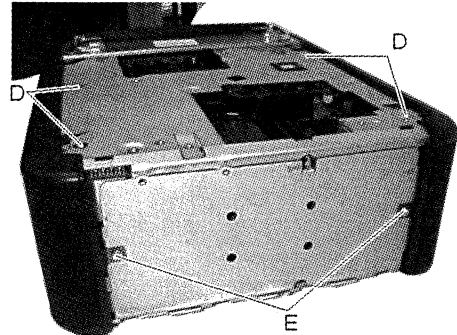

Fig. 4.4
4.3 Removing the side covers (fig. 4.4 and 4.5)